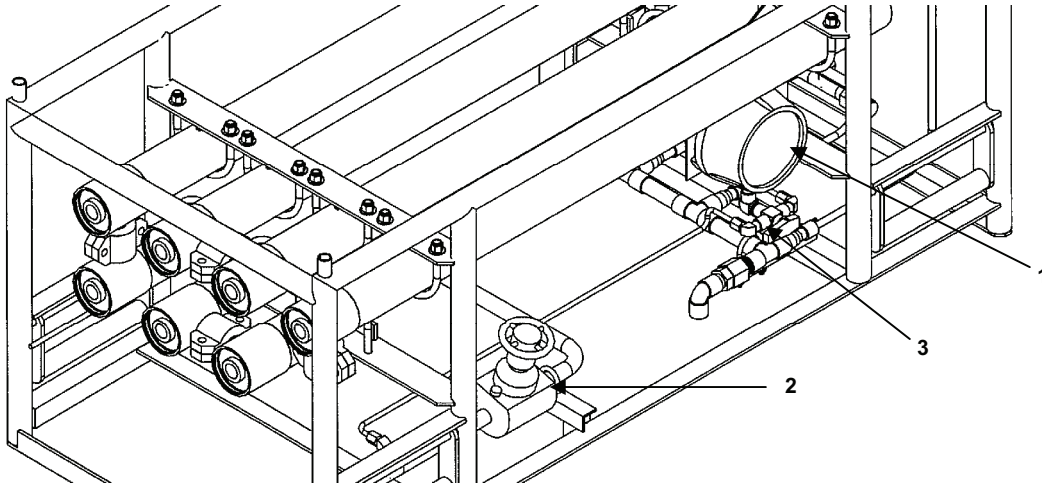
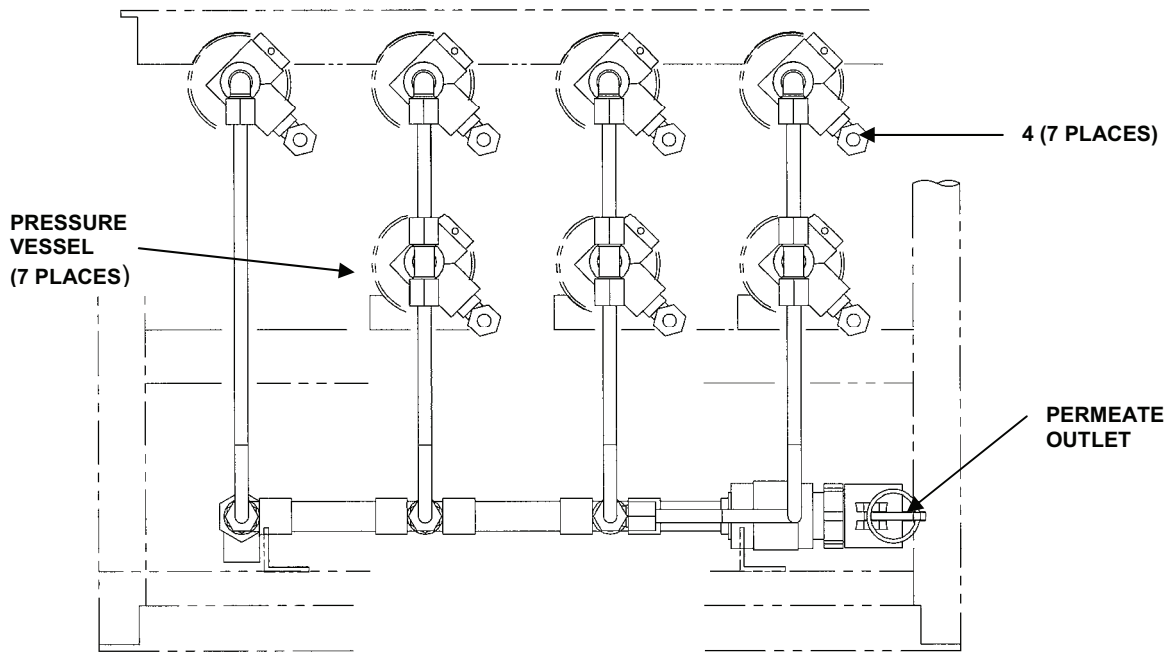
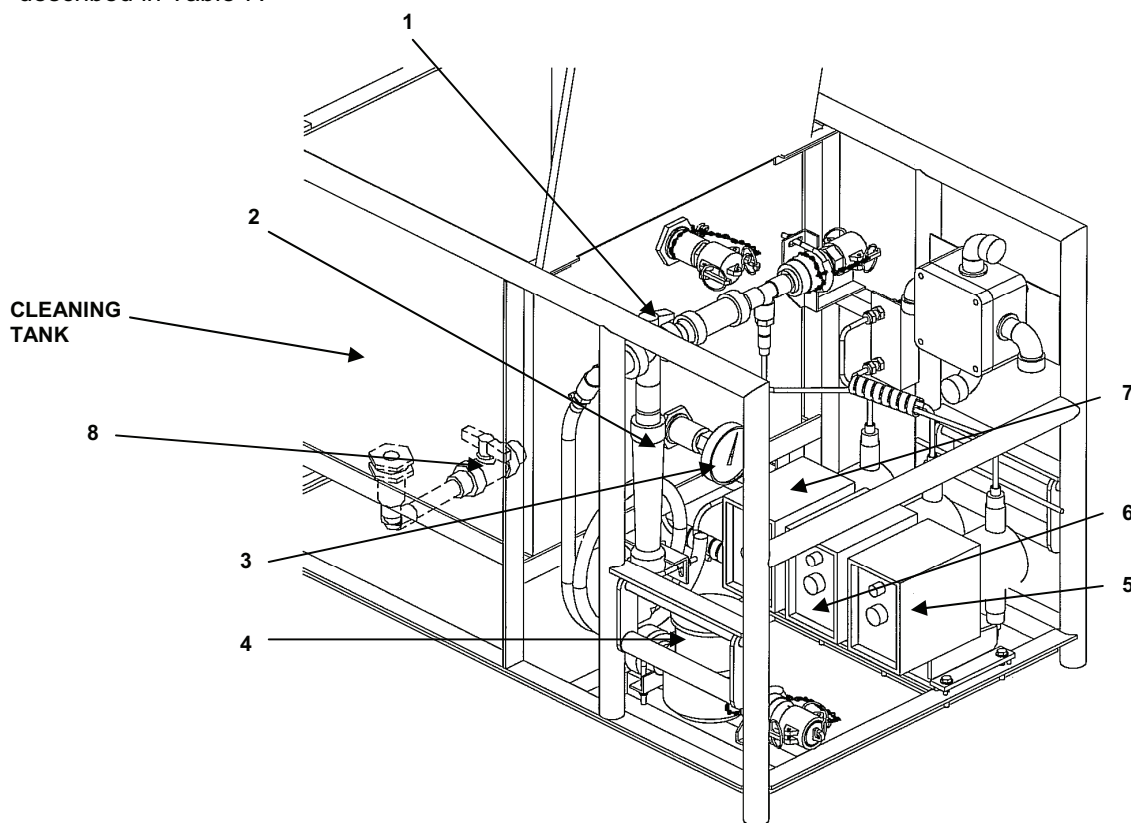

Figure 11. Reverse Osmosis Element Module.
Figure 12. Sampling Ball Valves and Pressure Vessel Assemblies.
Figure 13. Chemical Injection/Cleaning Module.
Controls and indicators on the Reverse Osmosis (RO) module are identified on Figure 11, Figure 12, and described in Table 6.
Controls and indicators on the chemical injection/cleaning module are identified on Figure 13, Figure 12, and described in Table 7.